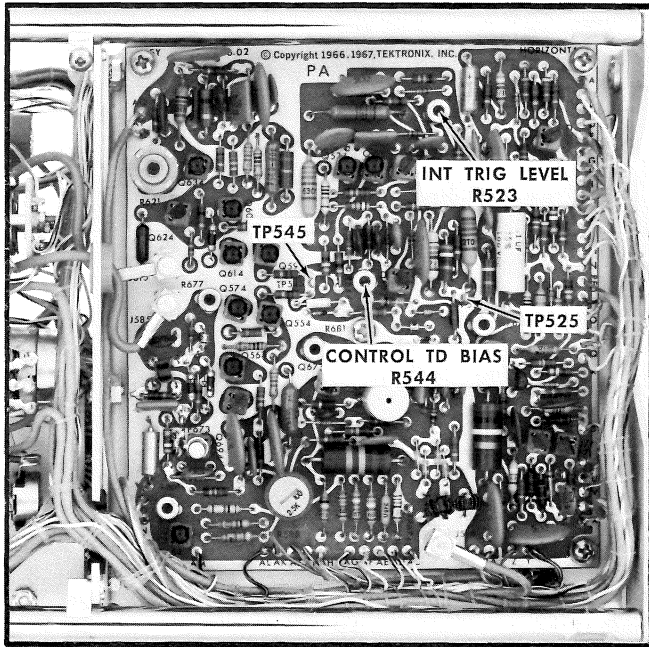
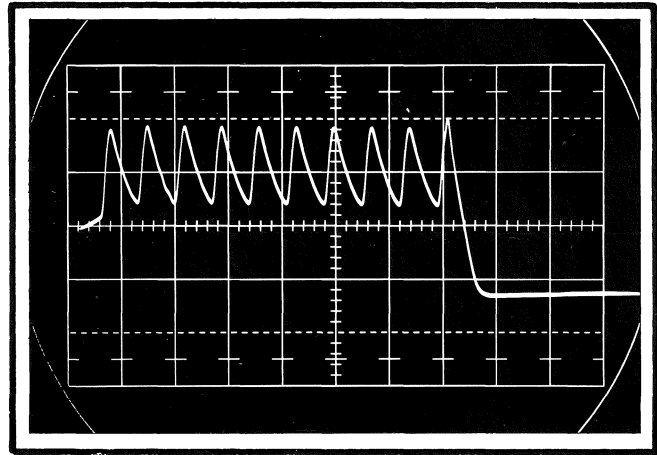
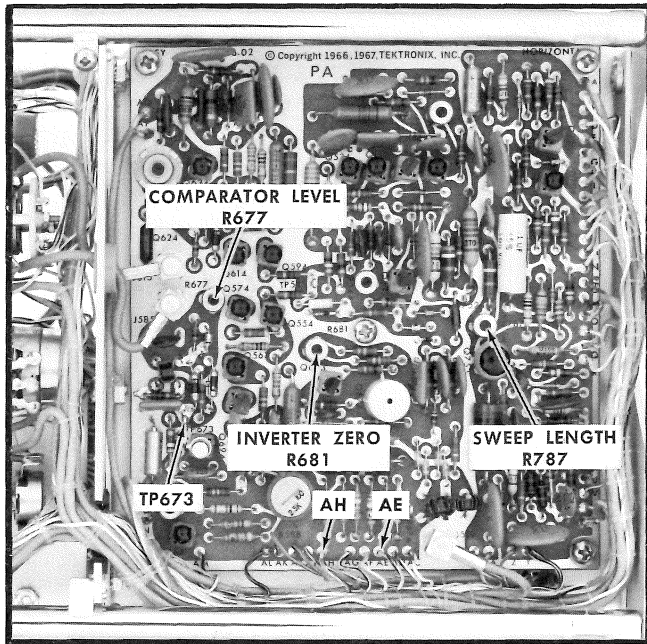

Fig. 7-6. Location of controls on Horizontal circuit board for steps 2 and 3.
Fig. 7-7. Typical CRT display of waveform at TP525, steps 3 and 4.
Fig. 7-8. Horizontal circuit board control locations.
- a. Set the Type 1S2 DISPLAY MODE to NORMAL and the UHF SYNC OR TRIGGER SENS control fully clockwise. Connect a patch cord from the HORIZ OUTPUT jack to the Indicator Oscilloscope Horiz Input jack and set the Variable 10:1 control for a trace approximately 10.4 cm long. If the Type 1S2 vertical is not operating, connect the 10× probe to the Type W Input A connector and to TP525 (See Fig. 7-6). This will produce a free-running trace on the Test Oscilloscope.
- a. Connect the 10× probe to the Type W Input A connector and connect the probe tip to TP525, see Fig. 7-6.
- d. Adjust INT TRIG LEVEL, R523 (Fig. 7-6) for a display similar to Fig. 7-7, showing approximately 8 to 12 peaks with 10 peaks nominal.
- c. Connect the 10× Probe tip to test point TP673, shown in Fig. 7-8, and rotate the MANUAL SCAN control fully counterclockwise.
- h. Adjust the SWEEP LENGTH control, R787, shown in Fig. 7-8, to bring the top of the test oscilloscope display to the center graticule line.
Terminals AE and AH on the bottom edge, see Fig. 7-8, of the Horizontal Circuit board are connected to the PRESET control terminals.
f. Adjust the INVERTER ZERO control, R681 (Fig. 7-8), for a reading of zero volts on the meter.
b. Connect the 10 \times probe tip to test point TP673, Fig. 7-8, and connect the 1 \times Probe from the Test Oscilloscope Trigger In to test point TP545, Fig. 7-6.
e. Turn the COMPARATOR LEVEL control R677 (shown in Fig. 7-8), clockwise until a spike appears as shown in Fig. 7-11A.